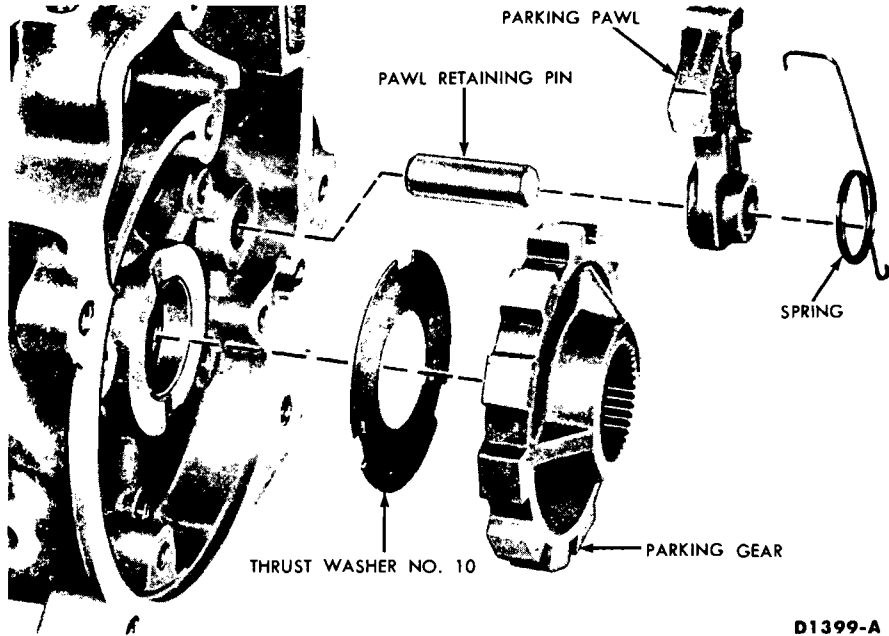

FIG. 54—Parking Pawl Mechanism
25. Remove the parking pawl return spring, pawl and retaining pin from the case (Fig. 54).